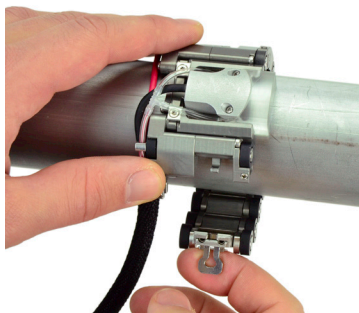
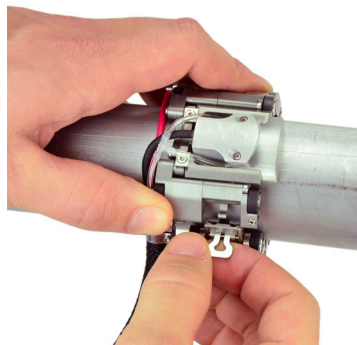

Figure 47
Figure 48
- Lift latch on the end of the chain (Figure 47) and pull toward scanner assembly (Figure 48).